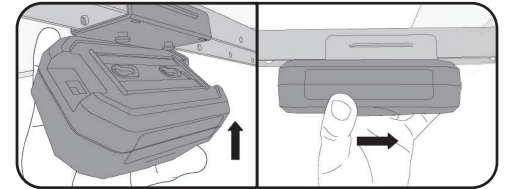

fig 4.2
4. Align the plastic pins on the universal mounting bracket with the holes on the back of the Power Adapter. Press the Power Adapter onto the pins and slide to lock it into place. (fig 4.2)